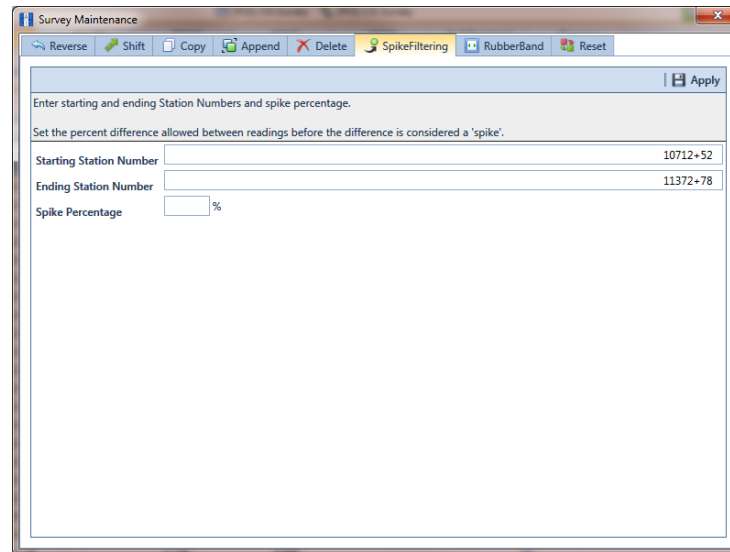

Figure 6-59. Spike Filtering
- 5 Click  **Survey Maintenance** to open the *Survey Maintenance* dialog box. Then click  **Spike Filtering** (Figure 6-59, page 225).